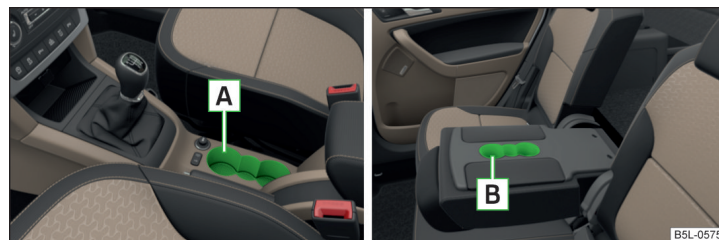
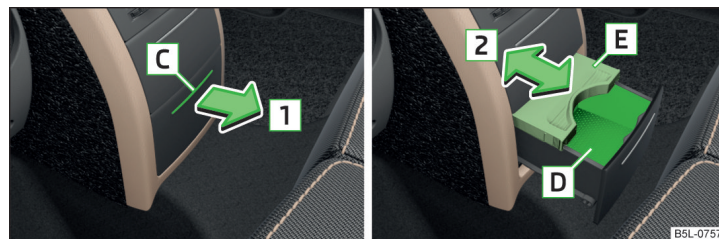

Fig. 80 Cup holders: in the front centre console / on the folding table in the centre backrest
Fig. 81 Open cup holder in the central console / adjust holder size
Cup holders » Fig. 80 and » Fig. 81
➤ Press the holder in area **C** » Fig. 81.
➤ Remove the holder in the opposite direction to the arrow **1** » Fig. 81.
- Before folding the rear centre seat, holder **D** » Fig. 81 must be closed - there is risk of damage.
A 1.5 litre bottle (max. capacity) can be stored in the holder **D** » Fig. 81.